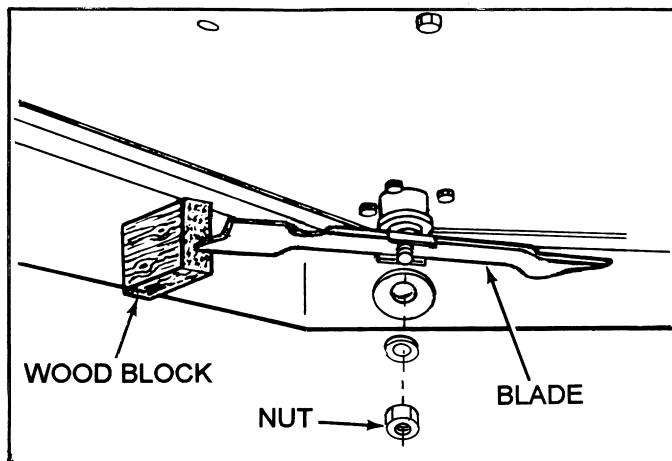

FIG. 7
- To remove blade for sharpening, use wooden block to hold blade while removing the blade mounting nut. The nuts have right hand threads. (See Fig. 7.)